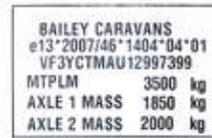

Figure 1
- On the statutory plate (fig. 1) gas locker.